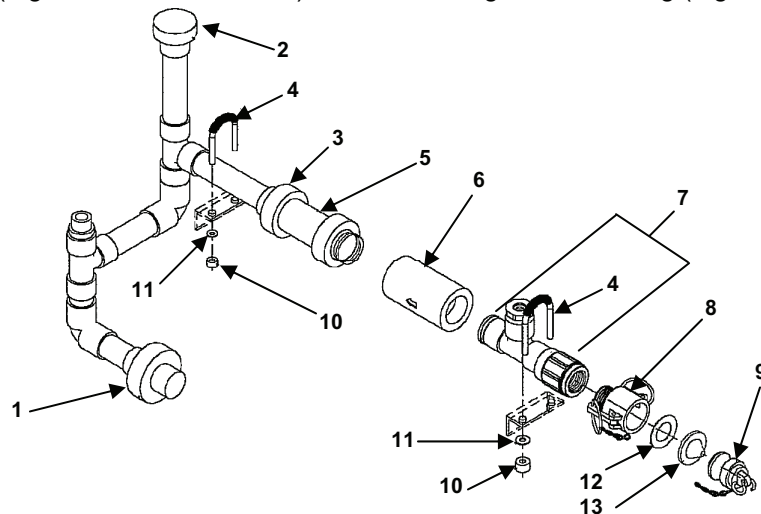

Figure 5. Backwash Inlet Piping.
1. Loosen unions (3) (Figure 5, Item 1, 2 and 3). Remove tubing from tee fitting (Figure 5, Item 7).
2. Remove nuts (Figure 5, Item 10) and washers (Figure 5, Item 11) from the U-bolts. Remove the U-bolts.
3. Remove check valve (Figure 5, Item 5), flow control valve (Figure 5, Item 6), female camlock (Figure 5, Item 8) and dust plug (Figure 5, Item 9) only if necessary.
4. Remove support washer (Figure 5, Item 12) and 30-mesh screen (Figure 5, Item 13) if necessary. Discard screen (Figure 5, Item 13).